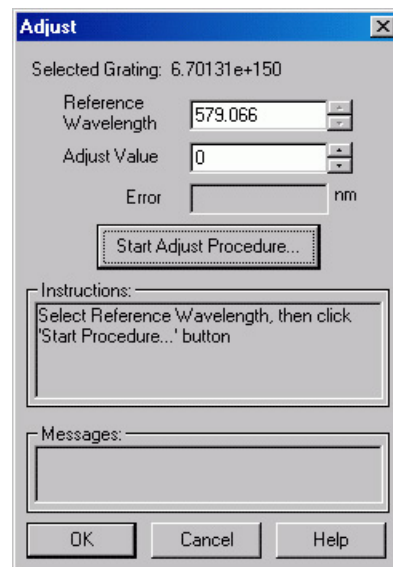

Figure 69. Adjust dialog
1. Click on the **Adjust** button to open the Adjust dialog (Figure 69).